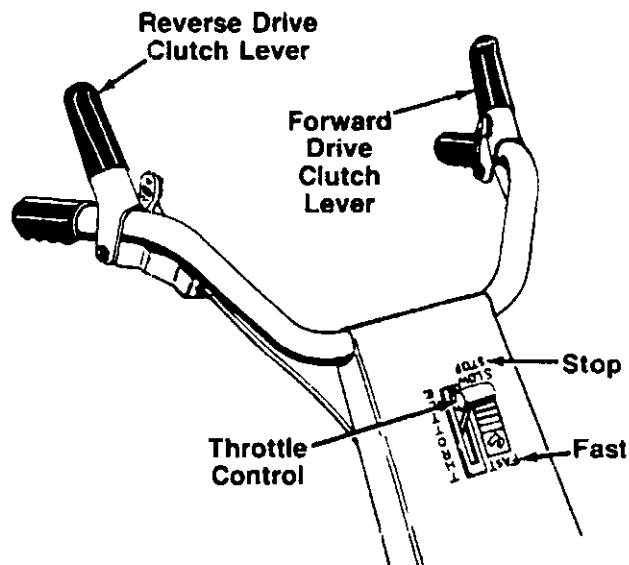

FIGURE 17.
The throttle control lever is located in the center of the handle panel. It controls the engine speed and stops the engine. See figure 17.
The forward drive clutch lever is located on the left handle. See figure 17. Squeezing the lever against the handle engages the forward tine drive. Release the lever to stop the forward motion.
The reverse drive clutch lever is located on the right handle. See figure 17. Squeezing the lever against the handle moves the tines in reverse. Release the lever to stop the reverse drive.
2. Move the throttle control lever forward to FAST or START position. Make certain both clutch levers are released. See figure 17.
1. Move throttle control lever to STOP position. See figure 17.
4. **Throttle Control:** The throttle control lever adjusts the engine speed and stops the engine. With the throttle control knob pushed completely forward, the carburetor is in START or FAST position. Pulling the throttle back reduces the engine speed to SLOW. Pull the throttle completely back to stop the engine. See figure 17.